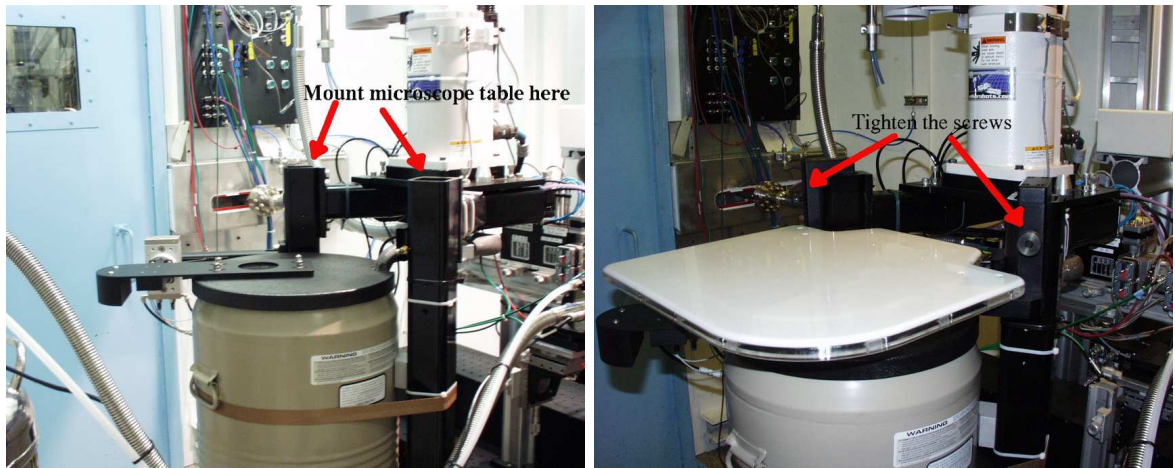

Figure 5: Mounting the microscope table in the experiment hutch
- A microscope (fig.4) is available for mounting crystals and flash-cooling directly in the cold stream. The microscope can be placed on a small table on top of the dewar inside the hutch. The table (usually located inside the experiment hutch) can be installed as shown below (fig.5). Use the plastic step stored inside the experiment hutch to reach the microscope table.